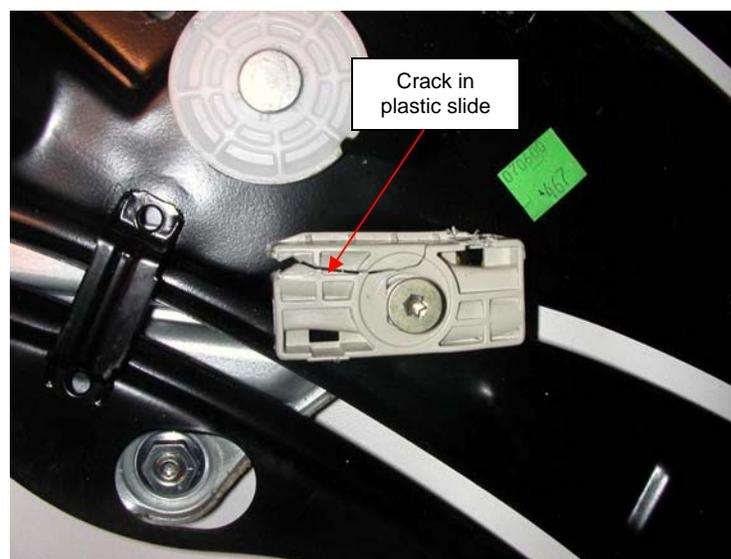

Fig. 21 Failed plastic slide
17. Upon examination, the cause of the failure was evident (see Fig. 21). The plastic slide that secures both ends of the drive cable had split, allowing one end of the cable to come free (accounting for the loud "pop" since the cable is very tightly wound) and preventing further movement. Note that the slide is of two-piece construction plus pivot (not evident in the photo) and has fairly complex internal features that could be replicated, but not easily.